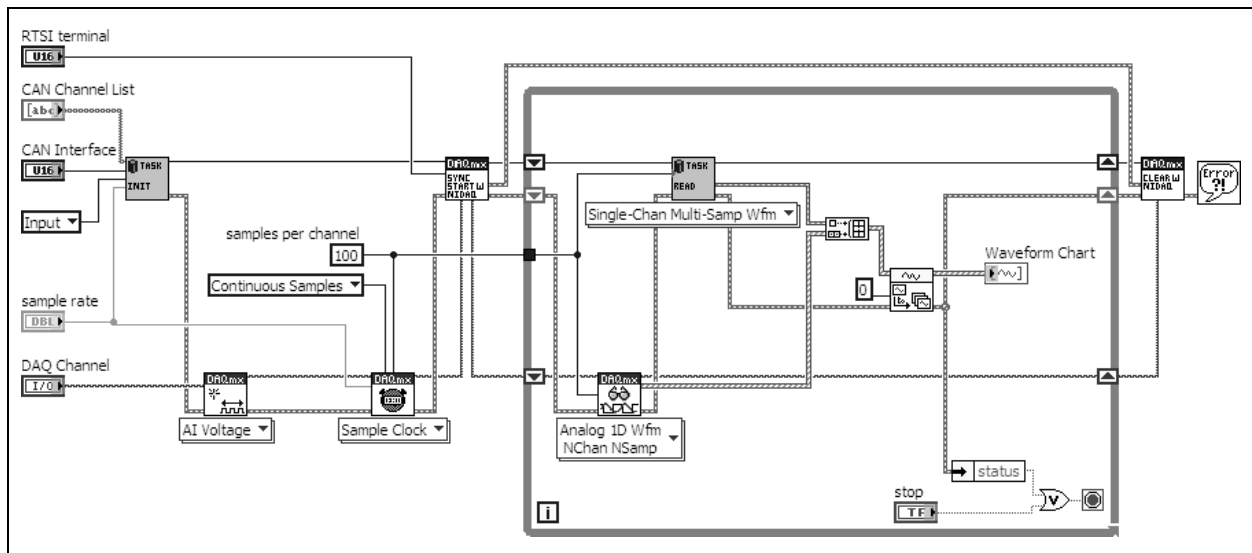

Figure C-21. Sync CAN & DAQ VI Block Diagram
2. Switch to the block diagram. It is shown in Figure C-21.